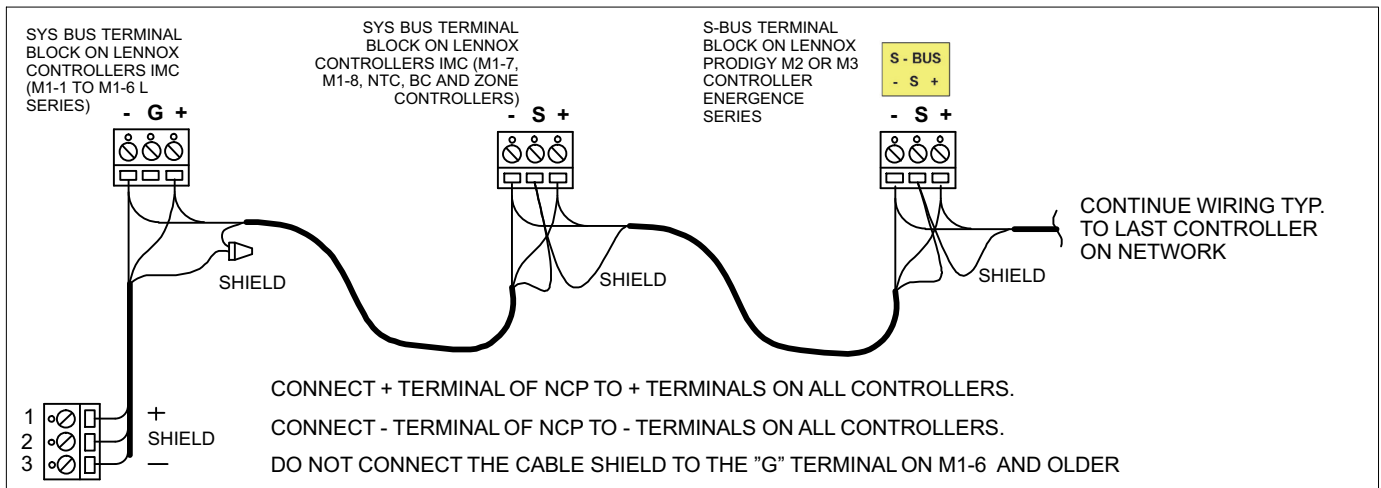

Figure 8. L Connection® Network Daisy-Chain Communication Wiring
The network control panel is an L Connection direct digital controller used on units which are not equipped with an M3 unit controller. The Building Controller (BC) is used to control building functions such as lights and signs. Use L connection specific network cable and daisy chain as shown in figure 8. L Connection daisy chains also need termination at the end nodes of the chain.